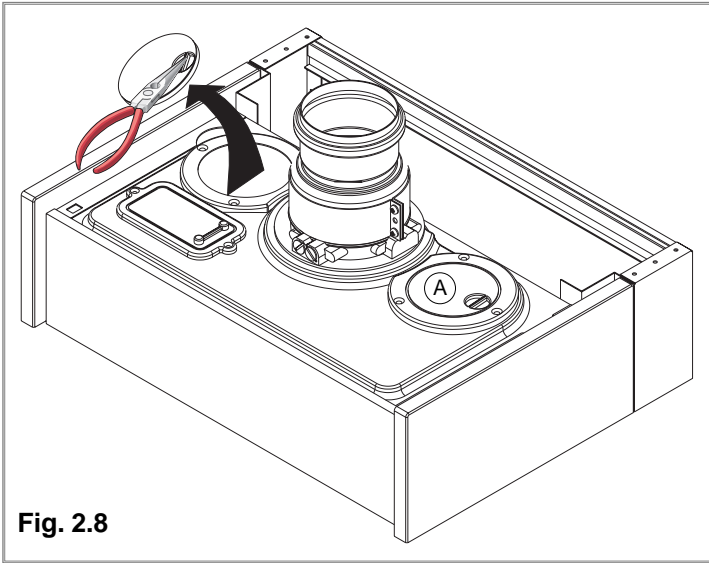

Fig. 2.8
- 1 - Remove the air vent intake you want to use, in the area indicated in Fig. 2.8, by breaking the perforated ring.